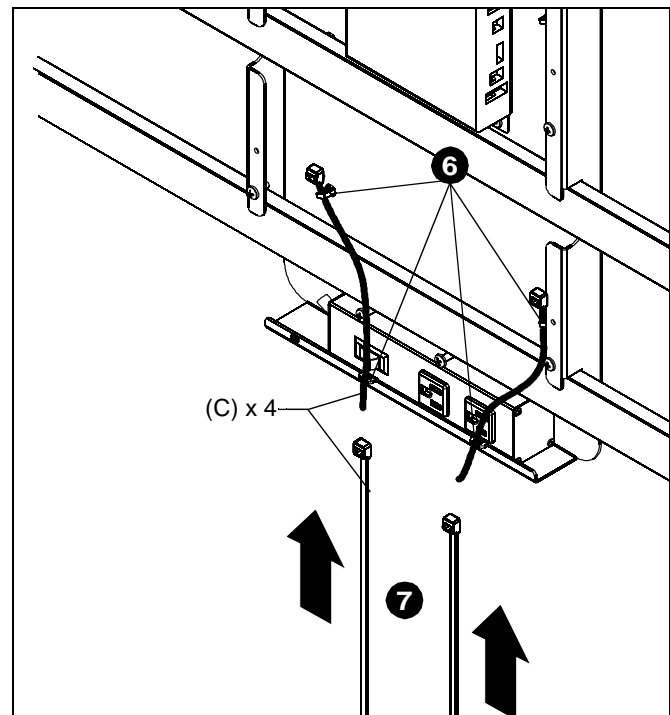

Figure 4
6. Secure power strip by feeding a cable tie (C) through each fastener on mount assembly (A). (See Figure 4)
7. Attach an additional cable tie (C) to each installed cable tie, zip together tightly, and use wire cutter to remove excess cable tie length. (See Figure 4)